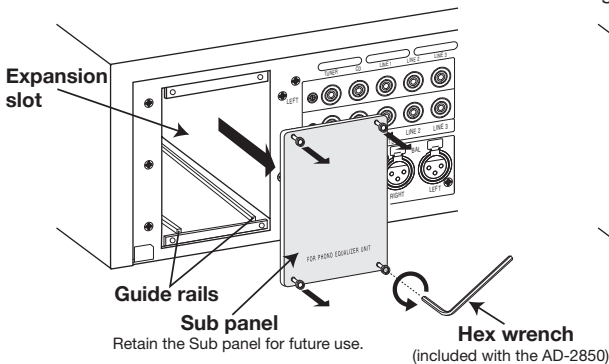

Fig. 1
- 2 Remove the sub panel of the expansion slot on the rear panel. Use the supplied hex wrench to remove the four screws by turning them counterclockwise (see Fig. 1).